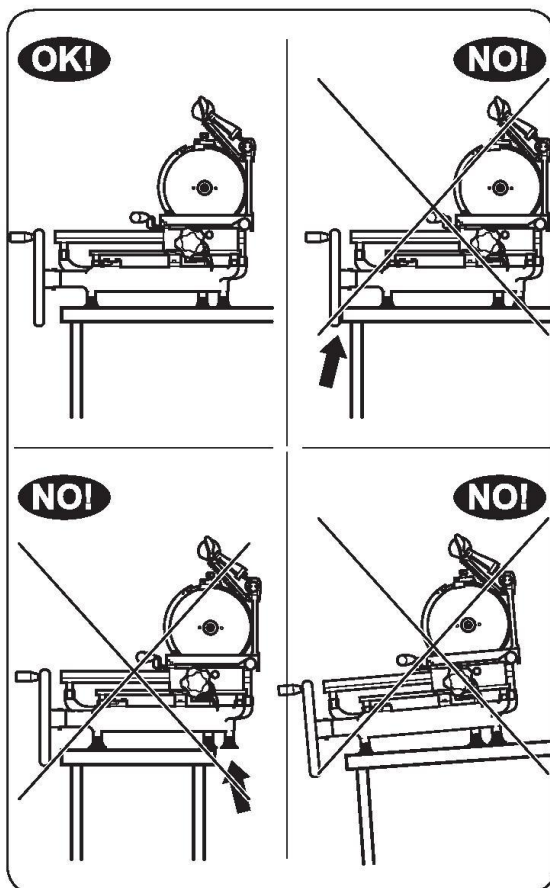

Fig. 5 - Positioning the slicer
#### Positioning the slicer (fig. 5)
- If not using the optional stand, carefully lift the slicer and position on a level surface (fig. 5) that is dry and capable of supporting the weight of both the slicer and the product to be sliced (see "Technical specifications").